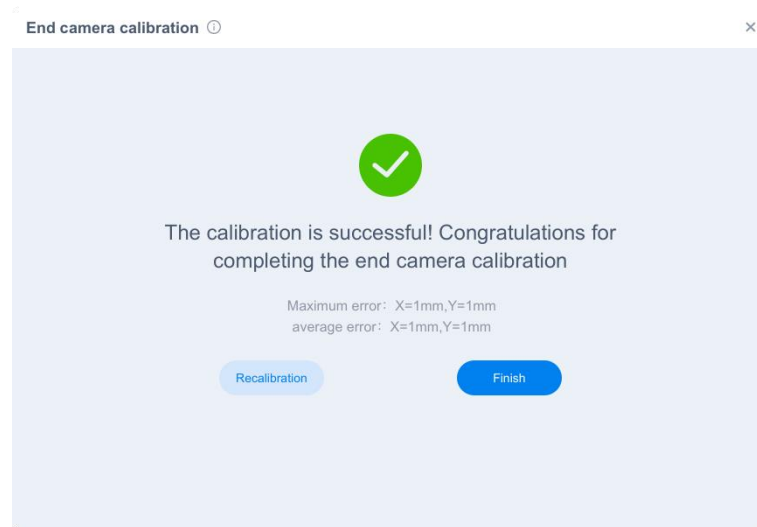

Figure 4.37 Calibration is successful
- Figure 4.37 shows that the calibration is successful.